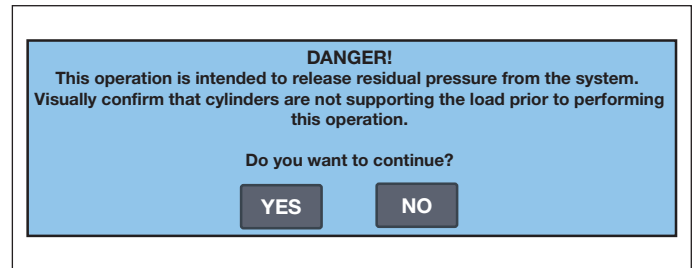

Figure 36, Warning advise for pressure releasing purposes
5. The system will require a second check to be sure the cylinders do not have any load. If any load is withstood by the cylinders, tap yes button. Refer to Figure 36.